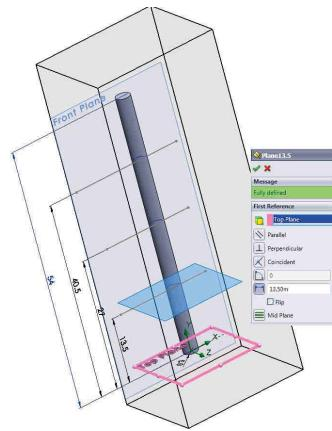

Fig. 14.6
- In caseta **Curve** PropertyManager, se va completa, fig. 14.6:
- In the **Curve** PropertyManager set, fig. 14.6: